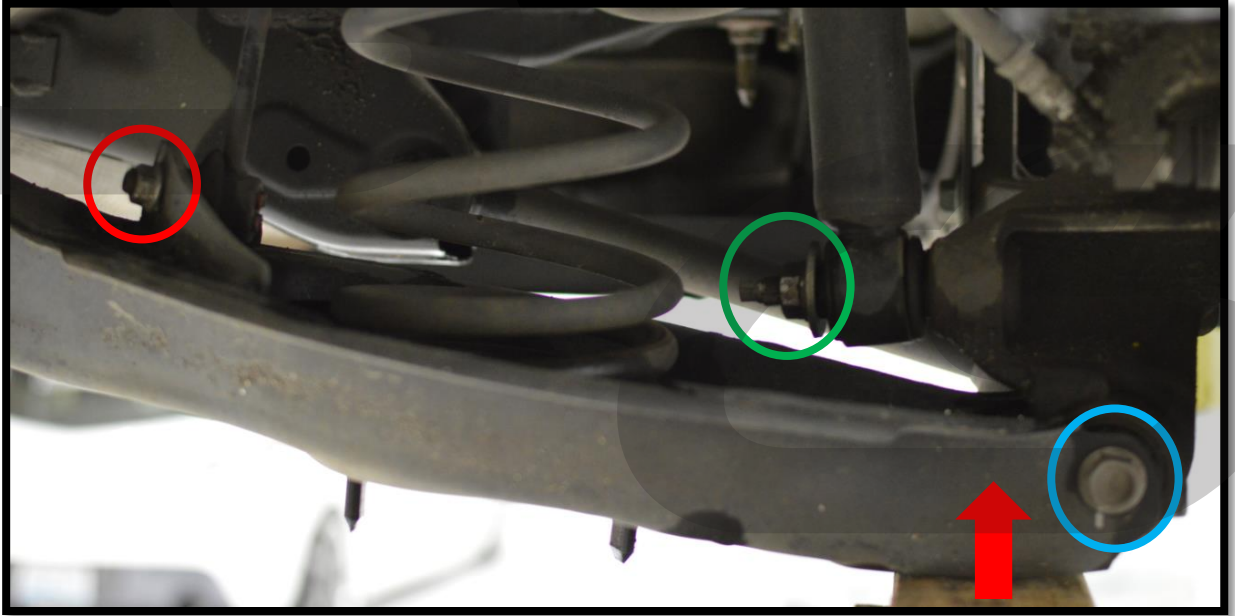

Figure 4a
- b) On the passenger's side, remove the 14mm nut holding the rear sway bar endlink to the control arm using a 14mm wrench. This nut is located on top of the control arm near the rear spring. Nut shown **circled in red** in **Figure 4a** on the next page. Then push the endlink out of the control arm.
- c) Use a hydraulic jack at the position of the **red arrow** in **Figure 4a** to support the lower control arm. Apply light pressure to ensure the jack is secure.
- d) Remove the 17mm bolt that holds the spindle to the control arm (**blue circle** in **Figure 4a**) using a 17mm socket and ratchet.
- f) Using a 19mm wrench or socket and ratchet, remove the lower shock mounting nut. **Circled in green** in **Figure 4a**.